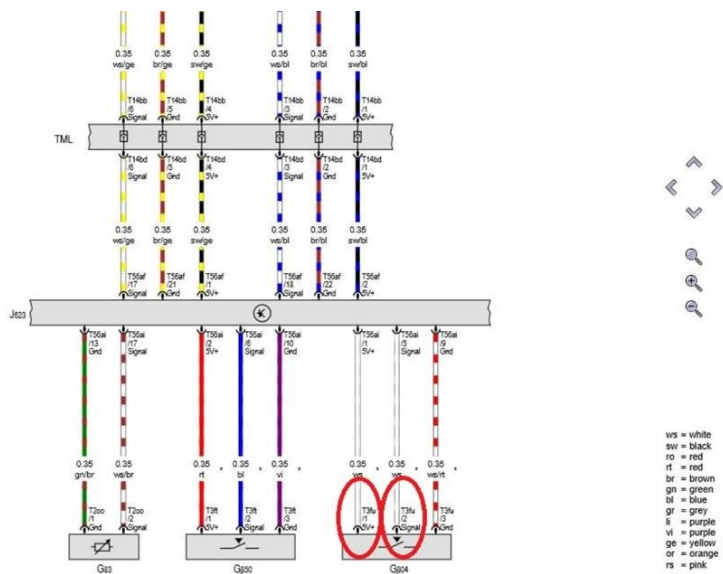

Figure 3
1) Refer to Wiring diagram 106/18 within Elsa pro (Figure 3)
2) Should the terminal locations NOT be as shown in Figure 3, the terminals should be reallocated within plug as per the wiring diagram